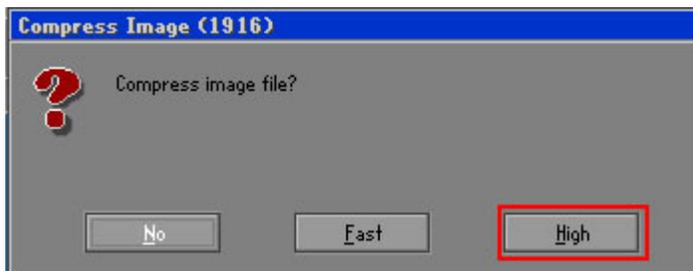

Figure D-17: Compress Image
Step 8: When the Compress Image screen in **Figure D-17** prompts, click **High** to make the image file smaller.